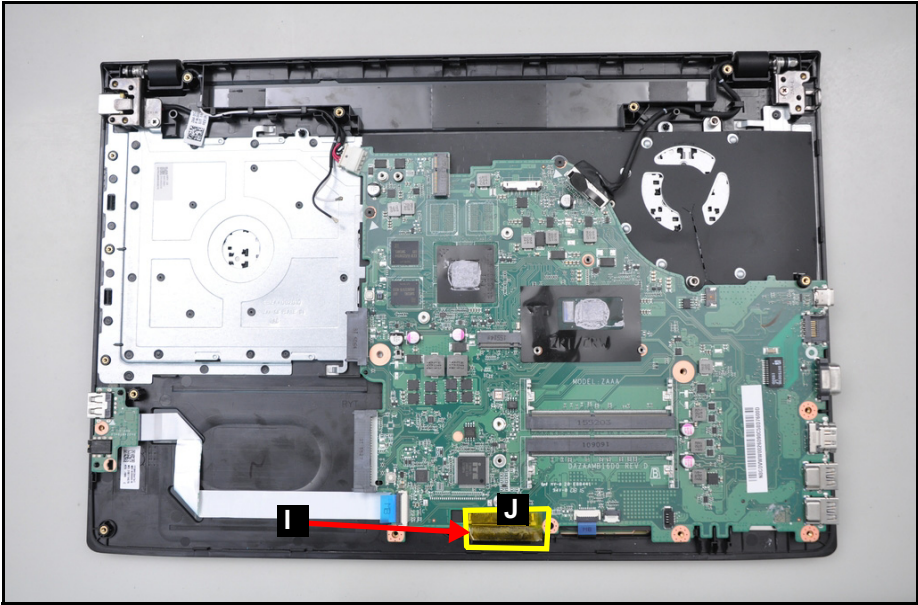

Figure 3-96. Replacing the Mainboard
9. Attach and secure the keyboard connector tape (I) to the keyboard connector (J) (Figure 3-96).